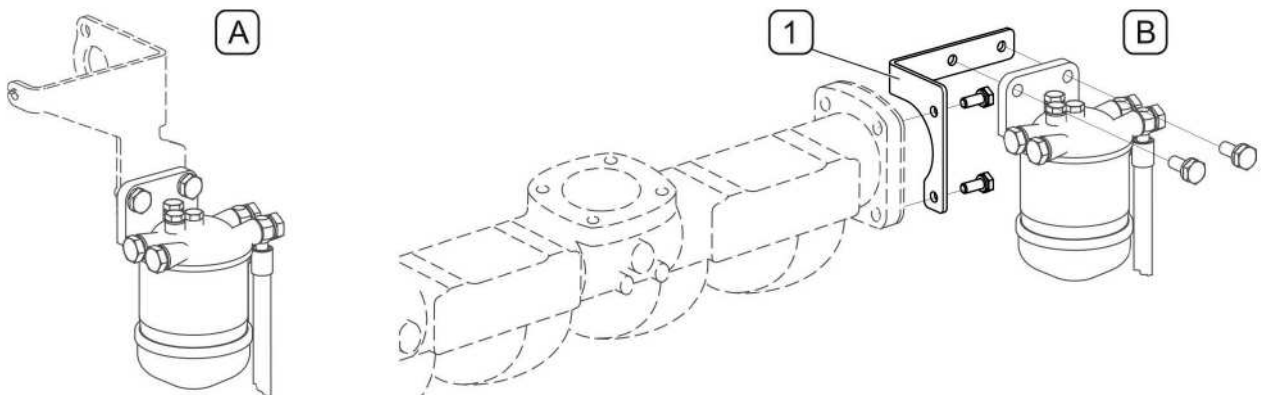

FIG. 4.16A Change of place of mounting preliminary fuel filter (ZEFIR 85/85K)
(1)- filter bracket catalogue no. 145N-01000001; (A)- fuel filter secured on bracket of fuel volume control link; (B)- fuel filter mounted on suction collector cover;
If in Zefir 85/85K tractor preliminary fuel cleaner filter fitted on the left side of the tractor is placed on the fuel volume control cable bracket (A) secure it on the suction collector cover (B) using bracket (1) (FIG. 4.16A)